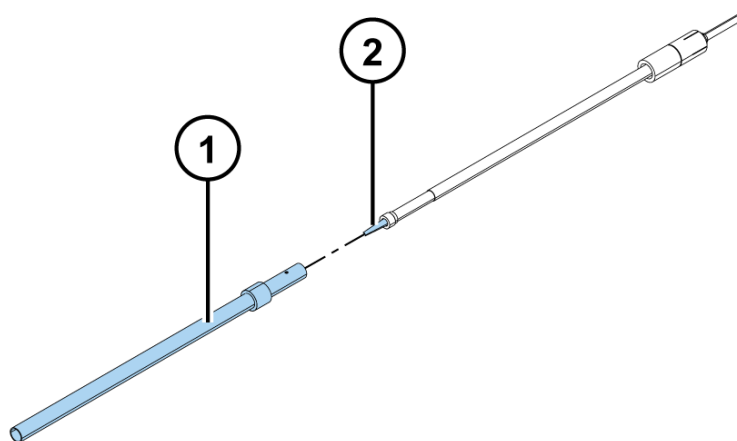

Figure 5–52 Replacing the dispensing tip (B)
3. Replace the dispensing head tube (Figure 5–52). Fasten the parts by turning in the opposite directions than shown in Figure 5–51.